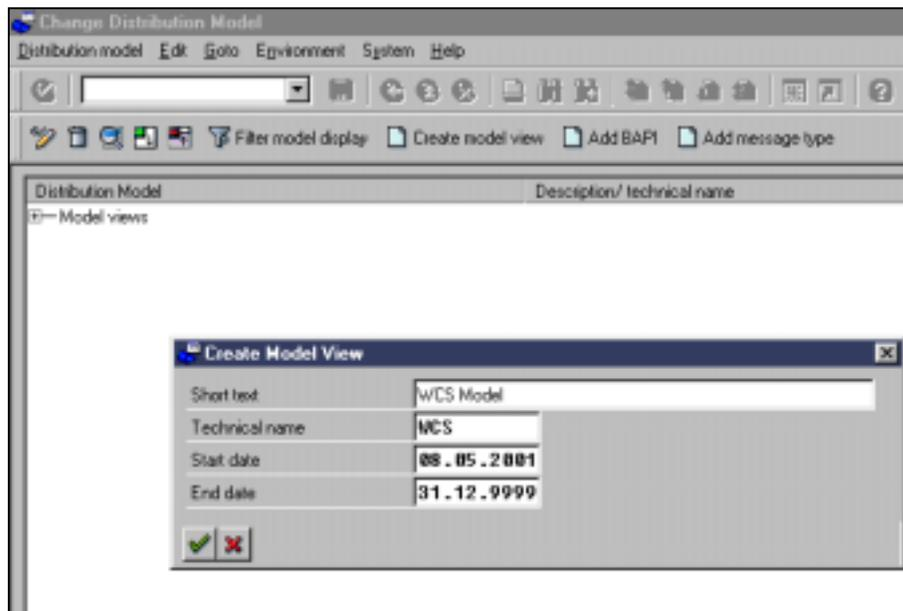

Figure 55: Creating a new model
2. Create the new model, as shown in Figure 55.